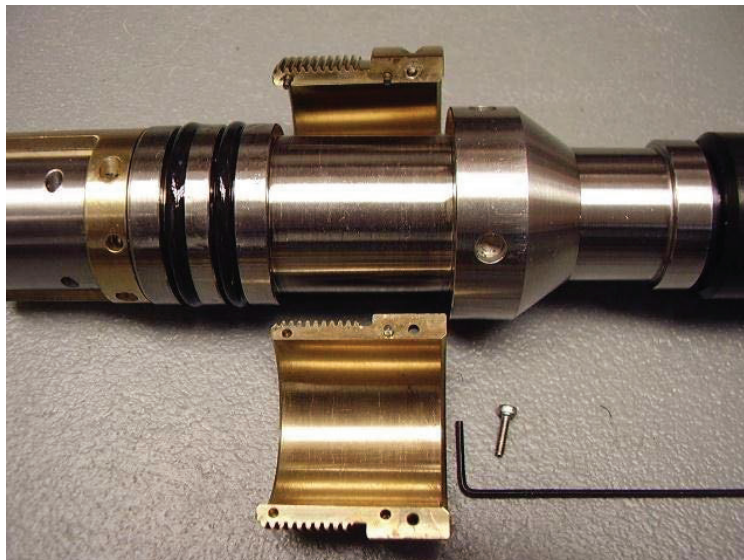

Figure 6-2 Halves rings when pulled apart
4. ☐ In the **Communication** panel, select **Settings**. Check **baud rate** is set to **41666** and **communication status** is **valid** (Figure 6-1 or Figure 6-2).